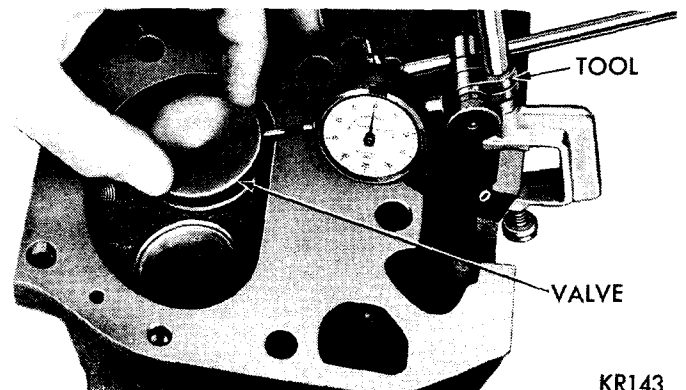

Fig. 9—Measuring Valve Guide Wear
(5) The special sleeve places the valve at the correct height for measuring with a dial indicator. Attach dial indicator Tool C-3339 to the cylinder head and set it at a right angle to the valve stem being measured (Fig. 9).
(6) Move valve to and from the indicator. Total dial indicator reading should not exceed .017 inch. If the dial indicator reading is excessive or if the stems are scored or worn excessively, ream the guides for new valves with oversize stems.
(7) Service valves with oversize stems are available in .005, .015 and .030 inch oversize, the oversize valve stem are as follows: